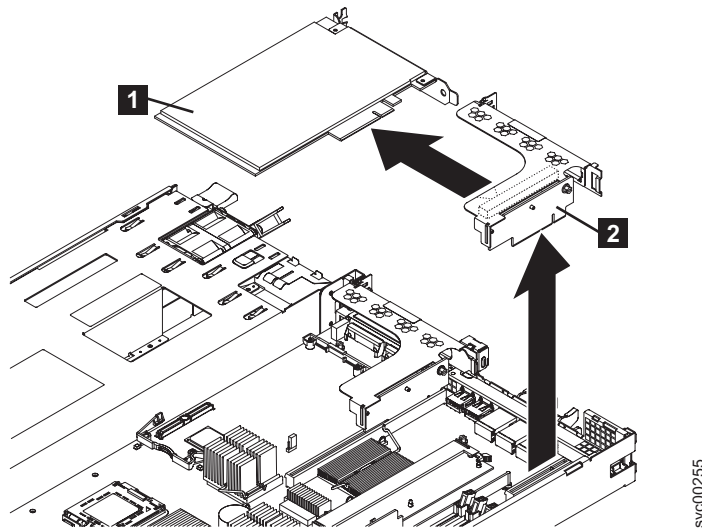

Figure 139. Removing the riser-card assembly from the SAN Volume Controller 2145-8G4
6. Grasp the riser-card assembly (2 in Figure 139) at the rear edge and lift to remove the riser-card assembly.